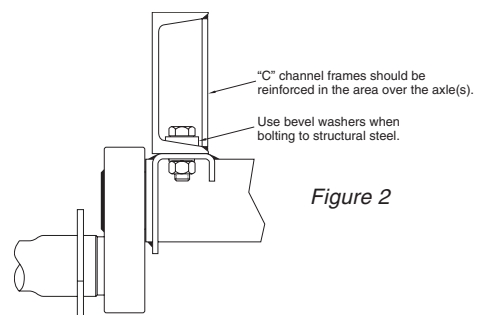

Figure 2
b. For “C” channel or “I” beam type frame, refer to figure 2.